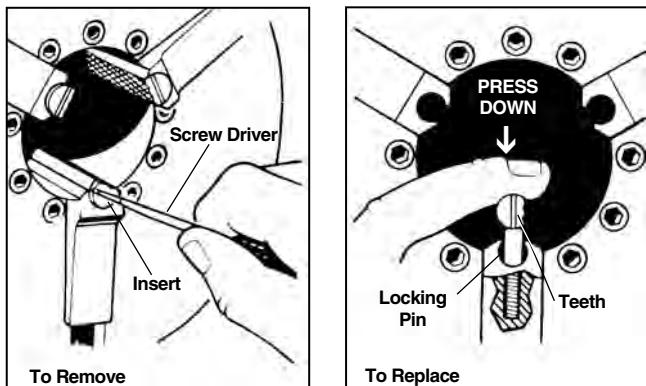

Figure 31 – Replacing Jaw Inserts
1. Place screwdriver in insert slot and turn 90 degrees in either direction. Remove insert (Figure 31).
2. Place insert sideways on locking pin and press down as far as possible (Figure 31).